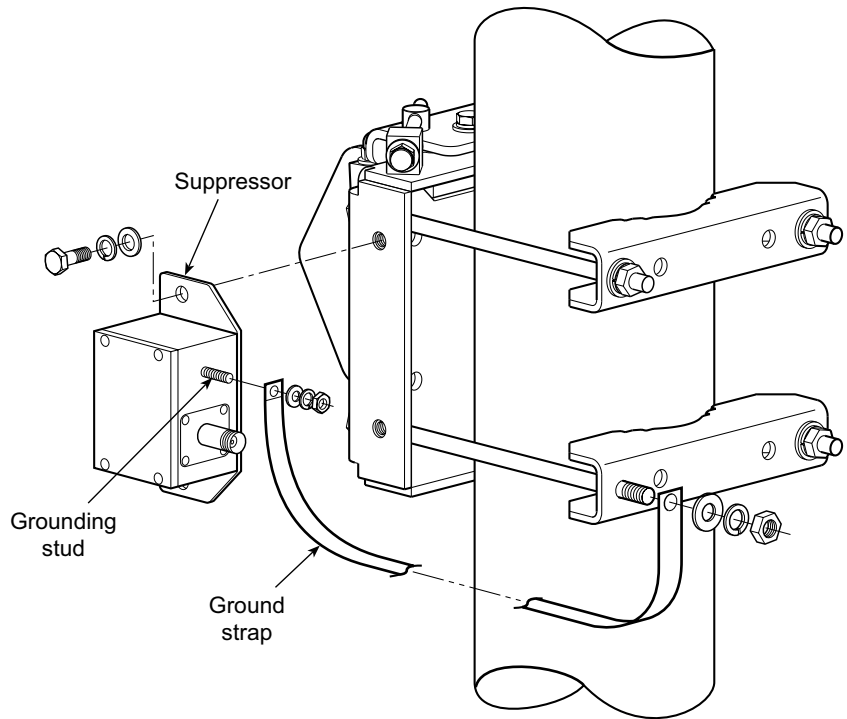
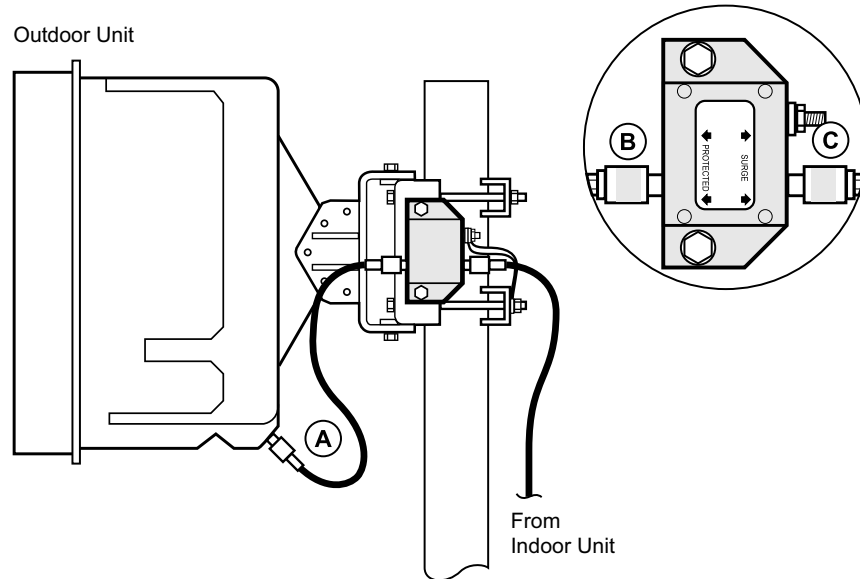

Figure 4-2. Lightning Suppressor Assembly
Figure 4-3. Lightning Suppressor Assembly Closeup
Install one suppressor as close as possible to the point at which the cable enters the building. Install another suppressor as close as possible to the ODU. Figure 4-2 and Figure 4-3 show this installation.
- Orient the grounding stud on the suppressor as shown in Figure 4-2.
- Connect jumper cable to ODU (A) and suppressor "Protected" connector (B) as shown in Figure 4-3.
- Connect the RG-6-type coax cable from the Fiberless indoor unit to the connector (C) on the suppressor labeled "Surge."